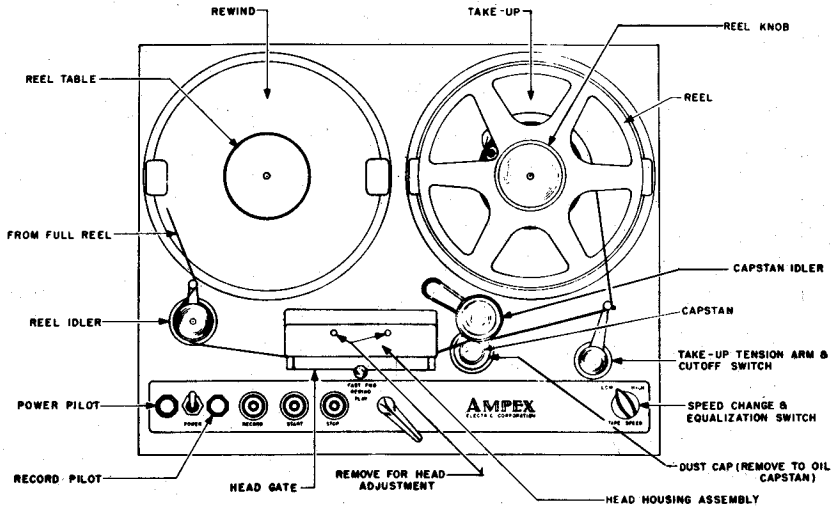

Fig. 4 Top View, Tape Transport
10. Load the left hand reel holder with tape and thread as shown in Fig. 4. Be sure the tape used has the oxide-coated side toward the rear of the machine; i. e., toward the head faces. Be sure to remove any adhesive that may have been used to seal the end of the tape. If
When the machine is ready to operate, turn on the power switch, see Fig. 4. This turns on the amplifiers and control circuits. The capstan drive will also start if the tape has been threaded, as the takeup tension arm operates a switch which shuts the motors off when the tape runs out. Pushing the Start button will now start the tape moving according to the mode selected on the Play, Rewind, Fast Forward control. In the Play position the tape will be reproduced at the output terminals. Pushing the Record button will permit an input to the machine to be recorded on the tape with almost simultaneous playback of the new program. A 1/2 second time interval should be observed between pressing the Start button and pressing the RECORD button to avoid switching transients magnetizing the record head. Pushing the STOP button will stop the machine and turn off the recording amplifier; therefore, one must always push the START and
The head housing, see Fig. 4, is a die cast assembly which contains the three heads used in the recording process. The heads are respectively erase, record, and playback as viewed from left to right when facing the machine. The gate on the housing holds the playback and record shield covers and the tape-lifting fingers. The function of the tape-lifting fingers is to remove the tape from the heads when the gate is open during REWIND or FAST FORWARD operation. This reduces head wear considerably. The tape may leave a deposit on the heads if allowed to contact them at high speeds. Such a deposit will seriously impair the performance of the machine and should be guarded against by always opening the gate on FAST FORWARD and REWIND. If a deposit is left, it may be easily removed with alcohol on a soft rag. Never use metal of any kind to touch the head surfaces. The gates should never be allowed to spring shut, but should be closed gently.